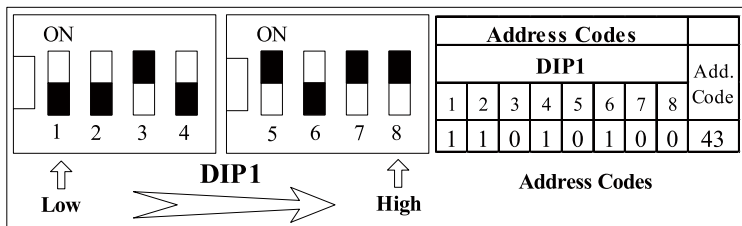

Fig.6 How to Set the Address 43
② . See the Fig.6 for how to set the address 43